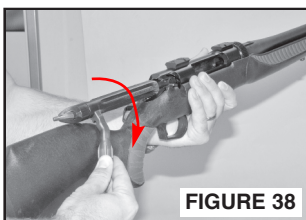

FIGURE 38
Step 1: Open the bolt and draw it fully rearward. Depress and hold the bolt stop in and remove the bolt from the receiver. (FIGURES 38 & 39).